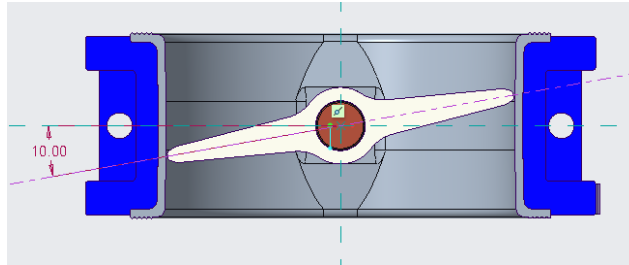

FIG.1. DISC IN 10° OPEN POSITON
- 4.1. DelVal Series 58 centric design butterfly valves are shipped with the disc in 10° open position (refer Fig.1), except for valves fitted with actuation for fail close applications (in which case, valves are shipped in fully closed condition).